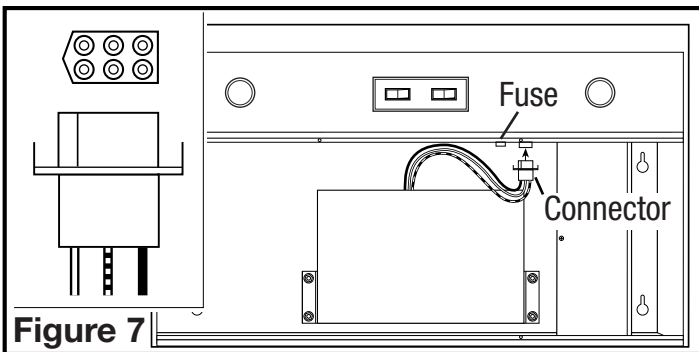

Figure 7
3. Plug the blower connector into the port on the front wall of the blower compartment. It will fit only one way (Figure 7).
1. To replace the fuse, turn the fuse cap located next to the wire connector counter clockwise and pull out. Replace with only a 125-Volt fuse, 3 Amp Max. Reinstall the fuse back into the hood (**Figure 7**).